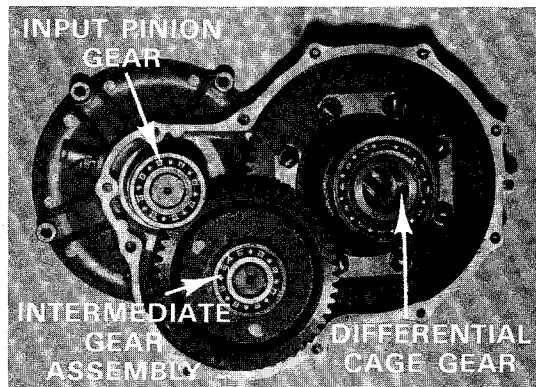

Figure 11-20
2. Install differential side gears (16) with thrust washers (18) onto both halves of differential cage gear.
3. Install idler gears (15), thrust washers (19) and pin (17).
4. Apply a small amount of oil to all thrust washers and both ends of the pin (17).
5. Assemble the two halves of the differential cage gear (13 and 14) and reinstall the ring gear (12) while aligning dowel pin.
6. Reinstall the eight hex bolts (24) and the bolt locking tabs (27). Tighten bolts to 16-20 ft.-lbs. torque.
7. Bend up the edges of the bolt locking tabs (27) securely against flat of bolt head to prevent the bolts from loosening and causing damage.
8. Press new bearing (22) onto intermediate gear assembly.
9. If large gear (10) was removed from intermediate gear, insert key (25) in shaft and press large gear (10) and bearing (21) onto shaft. Be sure key is properly positioned before attempting to press on large gear and bearing.
10. Press new bearing (21) onto input pinion gear.
11. Apply grease to lip of new oil seal (20) and install using drive unit pinion seal tool, CLUB CAR part # 1014161. Lip of oil seal should face to the inside of the drive unit housing. Make sure seal is firmly seated.
12. Install the differential cage gear, the intermediate gear assembly and the input pinion gear simultaneously. Be sure all bearings are firmly seated in the housing. Rotate the input shaft to check for smooth gear operation (Figure 11-20).
13. Install both dowel pins (7) in place in drive unit housing (1) and place a new gasket (3) in position, aligning all holes.
14. Apply a gasket sealing compound to one side of the gasket and install the other half of the housing (2).
15. Install the seven bolts (8) and tighten to 60-78 in.-lbs. torque.
16. If axle tube (28 and 29) was removed, install shims (26) if they were removed during disassembly and new gasket (34) with gasket sealing compound on one side. Install tube (28 and 29) with five lock washers (36) and bolts (35). Torque bolts to 20-24 ft.-lbs.